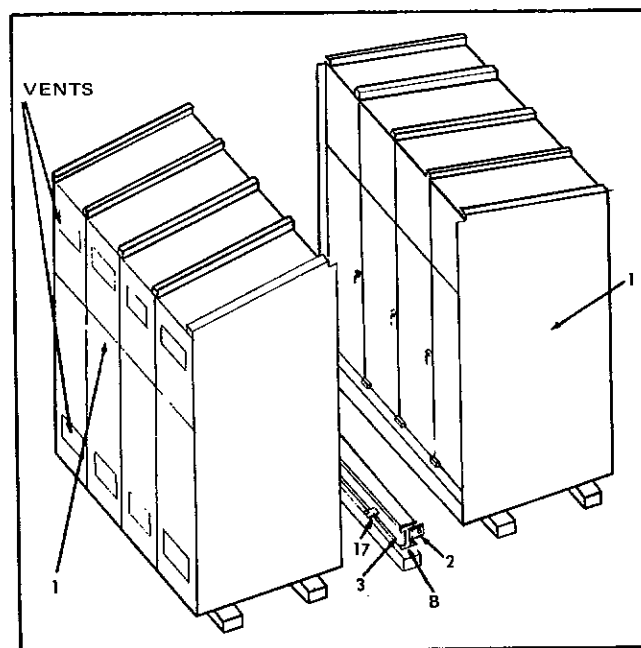
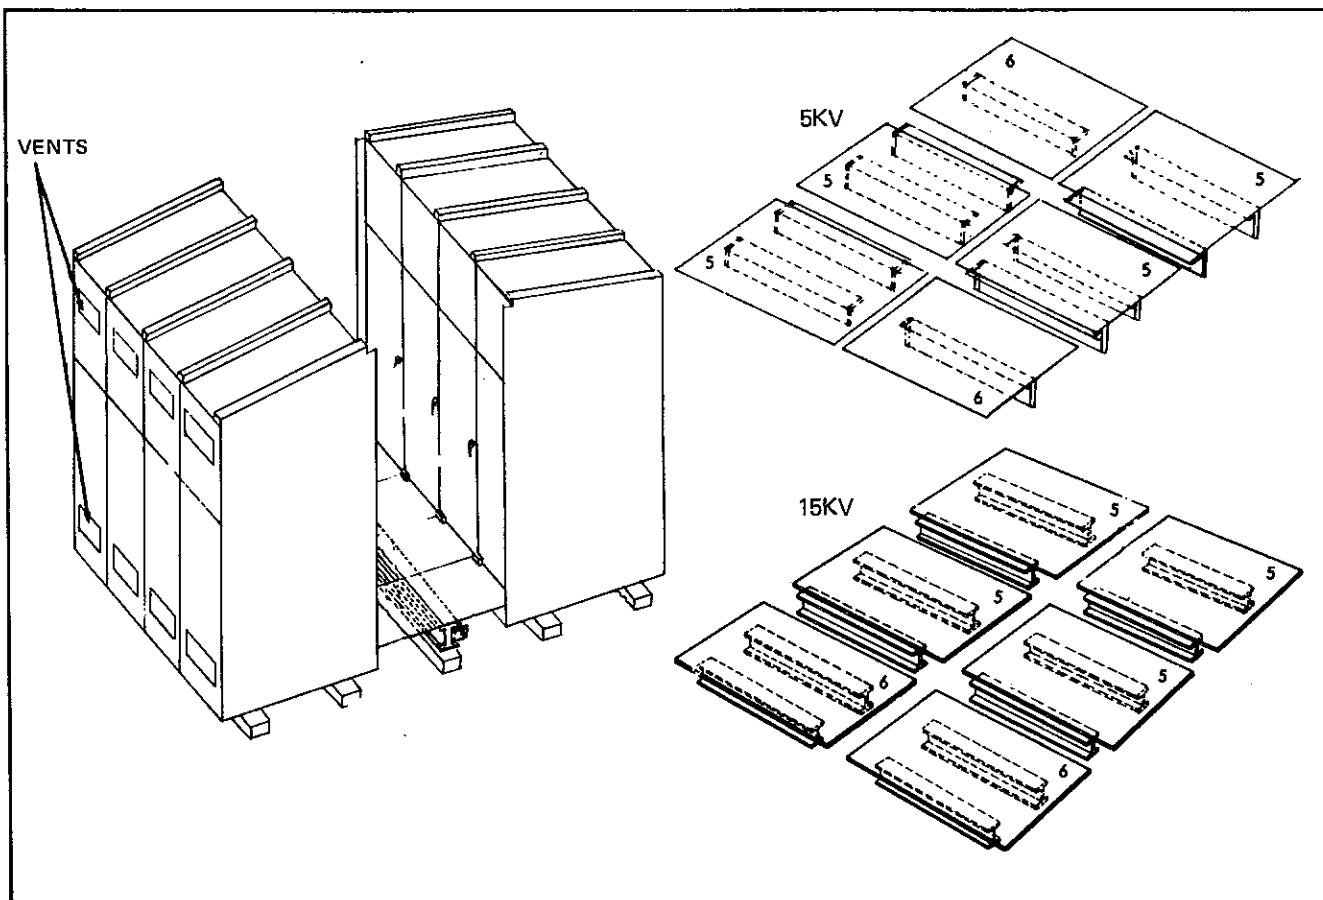

Figure 31. Initial Positioning - Common Aisle Layout
Figure 32. Floor Plate Installation – Common Aisle Layout
1. Place aisle beam (3) in position "B" and secure with anchor bolts. (See Figure 31).
2. Attach angle (2) to ends of aisle beam (3) as shown.
3. See Figure 32. Install all floor plates using 5 kv or 15 kv pattern shown. Each plate overlaps the supporting member of the next plate; determine sequence of installation. Place each set of floor plates to equalize the space between the floor plates and prevent a wide crack at end of group.